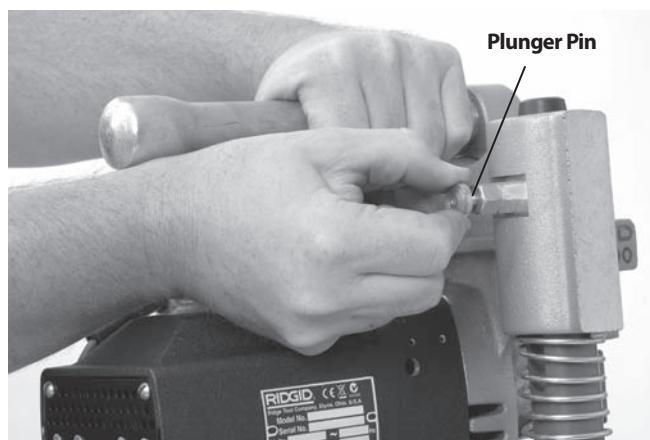

Figure 7 – Separating the Base and Motor Assemblies
- Broken, worn, missing, mis-aligned or binding parts. Make sure that the motor assembly moves smoothly and freely up and down the posts of the base assembly. Confirm that the chain and swivel handle move freely. On the HC-300, confirm that the plunger pin functions properly and retains the motor assembly to the base assembly (Figure 7).
- With the HC-300 Hole Cutting Tool on a stable, secure surface, pull the plunger on the back of the left post (*Figure 7*) and lift the motor assembly off of the base assembly.